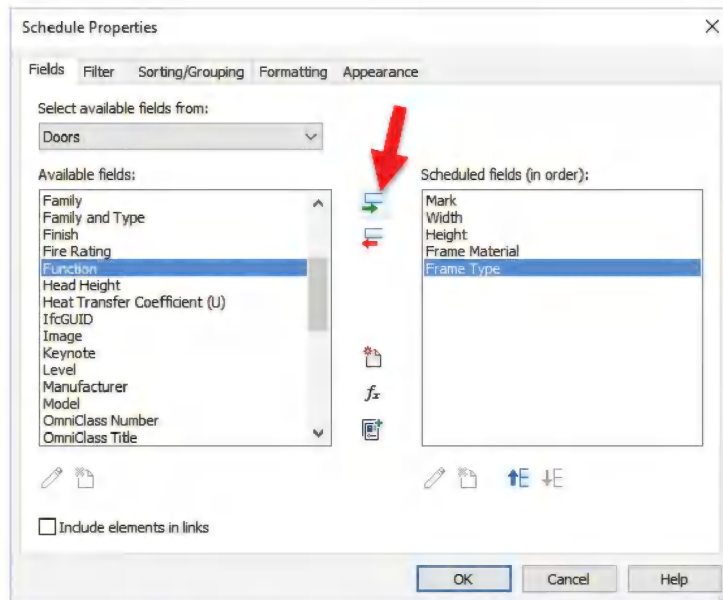

Figure 12-2.2 Schedule Properties – Fields
4. On the **Fields** tab, add the information you want displayed in the schedule. Select the following (Figure 12-2.2):